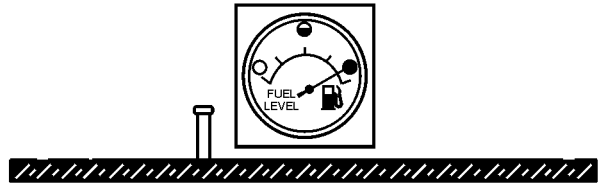

Figure 32. Full Fuel Tank
- NEVER overfill fuel tank** — It is important to read the fuel gauge when filling trailer fuel tank. **DO NOT** wait for fuel to rise in filler neck (Figure 32).